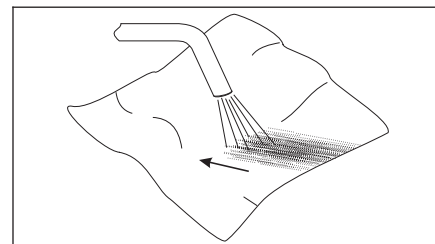

Figure 3 Adjust Pressure
5. Adjust pressure output so hot air scorches a tissue from approximately 0.5 cm away. (See Figure 3.)